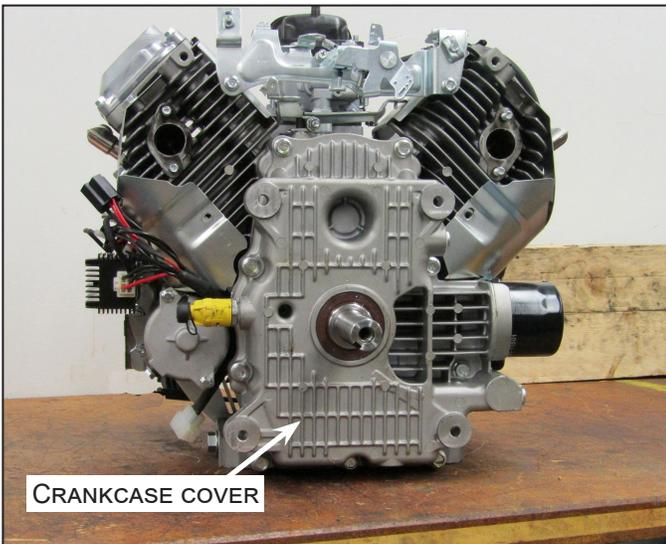

Figure 1
3. Disconnect the Throttle/Choke Cable(s) and the Fuel line. Unplug the Wire harness. Remove and discard the PTO retaining bolt. Remove the PTO (electric or manual). Remove the Engine Mounting bolts 3/8-16 X 1.0 (710-04683C), Exhaust, etc. Remove Engine from Chassis and set on a firm level work table to face forward. See Figure 1.